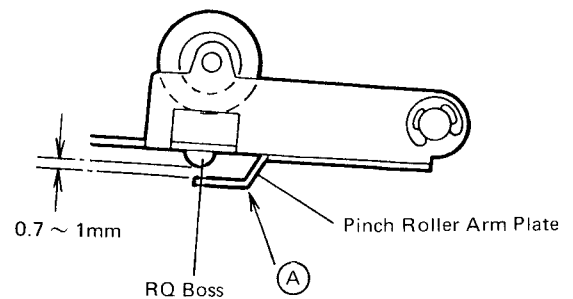

Fig. 26
2. After adjustment check that the gap between the RQ boss and the pinch roller arm plate is within 0.7 to 1mm. If it is beyond the limits, adjust it by bending the part (A) of pinch roller arm plate as shown in Fig. 26.